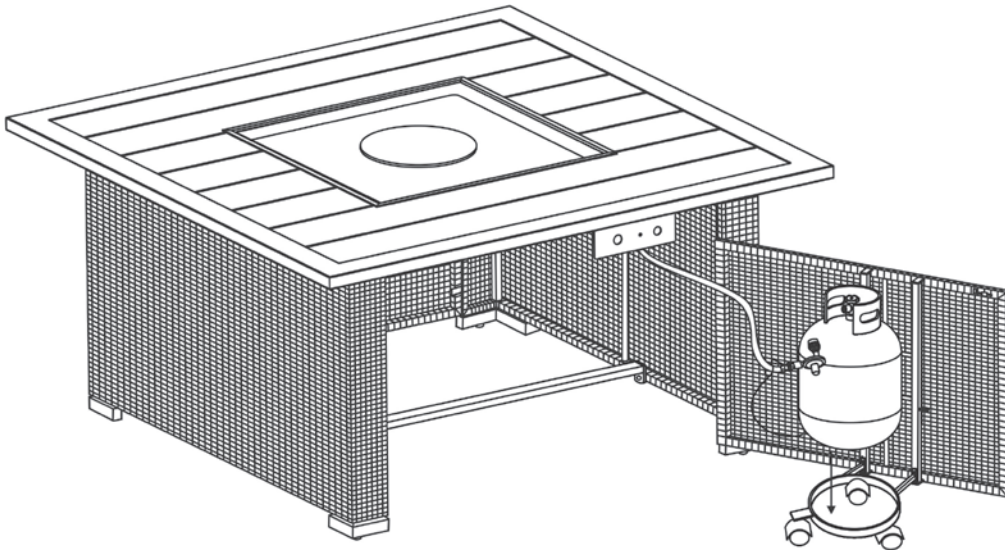

Figure 7
7. Place gas tank onto the LP support as shown in Figure 7.